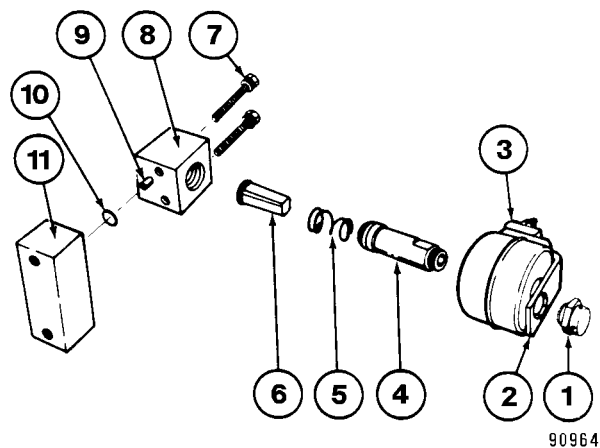

FIGURE 4-4. AIR START SOLENOID
1. Remove breather (1, Figure 4-4) from yoke (2). Lift off yoke (2) and coil (3). Unscrew and remove coil pole (4) with spring (5) and plunger assembly (6).
2. Remove capscrews and lockwashers (7) securing valve body (8) to mounting bracket (11). Remove O-ring (10) in valve body.
3. Disassemble plunger assembly (6) by removing cap from plunger and remove seat, spacer and seat.
1. Install O-ring (10, Figure 4-4) around roll pin (9) on valve body (8). Align valve body to mounting bracket (11) and secure with capscrews and lockwashers (7).
2. Install spring (5) and plunger assembly (6) inside coil pole (4). Screw coil pole (4) into valve body (8). Install coil (3) and yoke (2) over coil pole (4).
3. Press coil lightly until threads of coil pole protrudes through coil. Install breather (1) onto coil pole. Tighten securely.